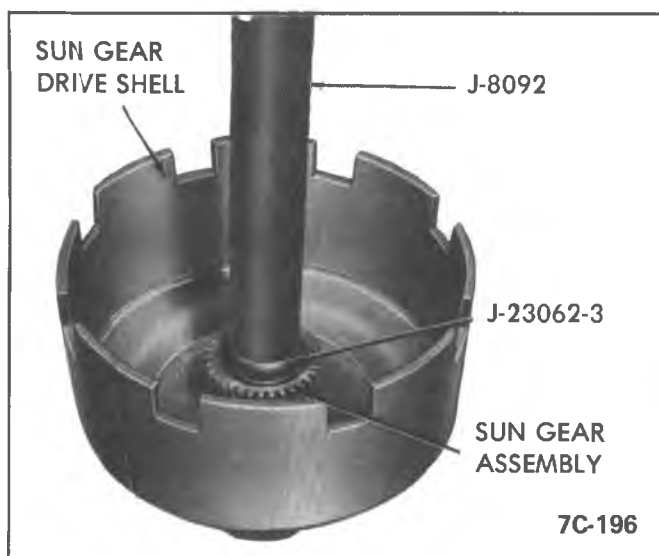

Figure 7A3-183 Install Sun Gear Bushing
2. Install sun gear bushings using Tool J-123062-13 and Drive Handle J-18092 and install flush to .010" below counter bores. See Figure 7A3-183.